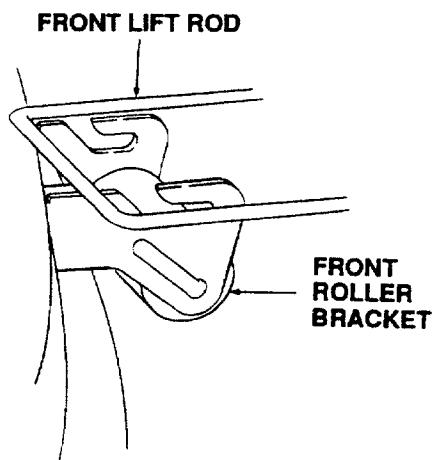

Figure 41
- Raise the tractor implement lift handle to its highest setting. Slide the mower deck forward, so the front lift rod rests to the rear of, and free of, the front roller bracket slots of the deck. (Refer to Figure 41.)